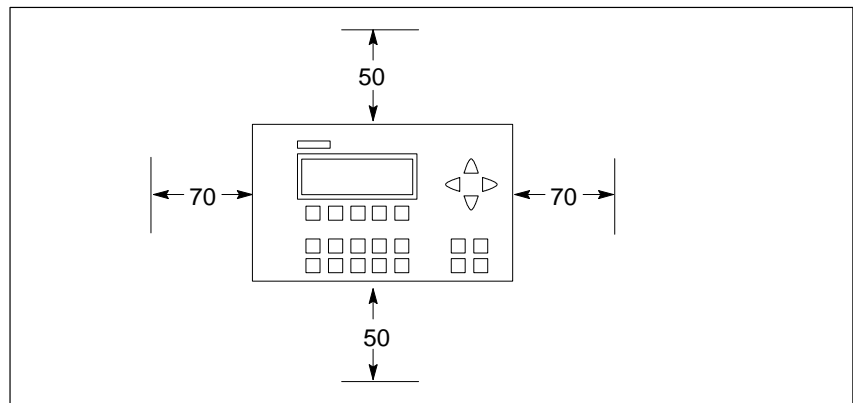

Figure 2-6 Minimum Clearances when Installing the C7
- There must be a clearance of at least 50 mm above and below and 70 mm at the sides of the C7 as shown in Figure 2-6.